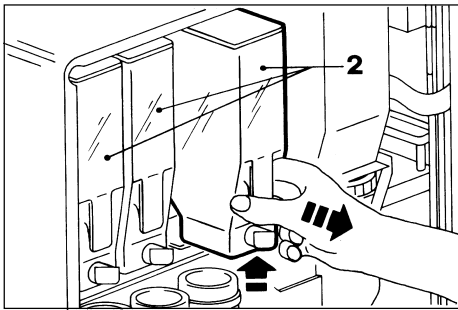

Fig. 23
- Remove bins (2) from their housing (Fig. 23)